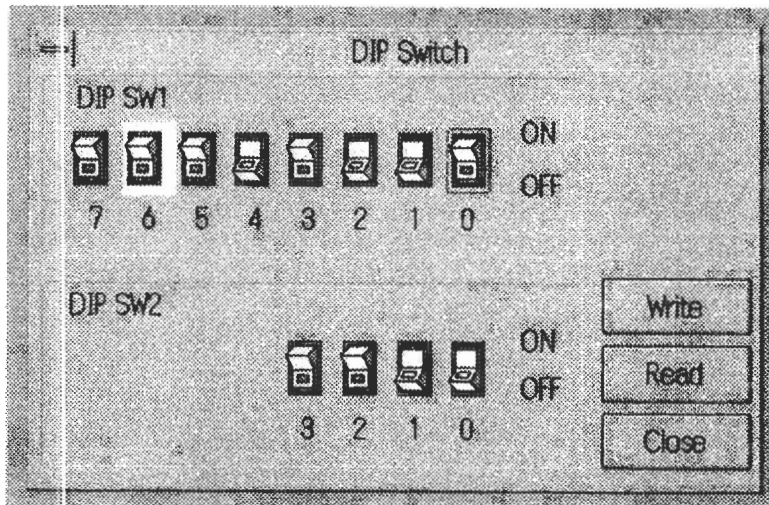

Figure 4-13
- "DIP SW" (Figure 4-13): Enables the LT 1610/1611 DIP switch setting to be changed temporarily. See Section 5.3 for more information.